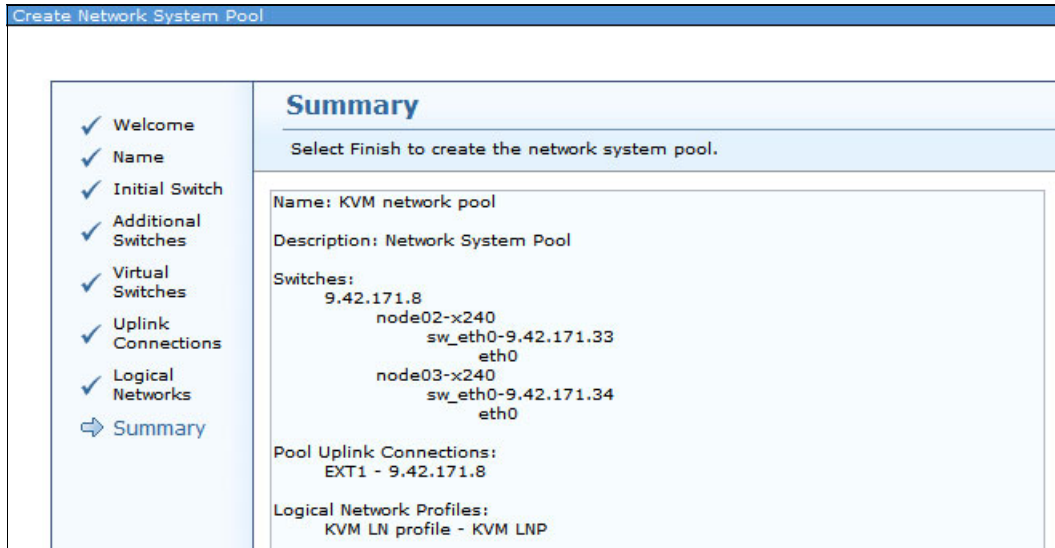

Figure 9-90 Create Network System Pool: Summary
14. Check the configuration settings on the Summary page, as shown in Figure 9-90 on page 365. Click **Finish**.